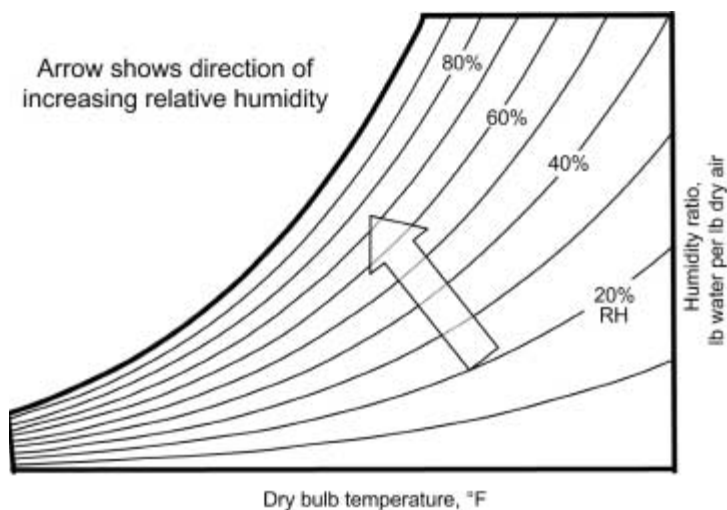

FIGURE 2.5 Psychrometric chart showing lines of constant relative humidity.
- The *relative humidity* is the amount of water vapor in the air divided by the amount of water in the air at saturation at the same temperature and pressure. Figure 2.5 shows how the relative humidity changes in the psychrometric chart.